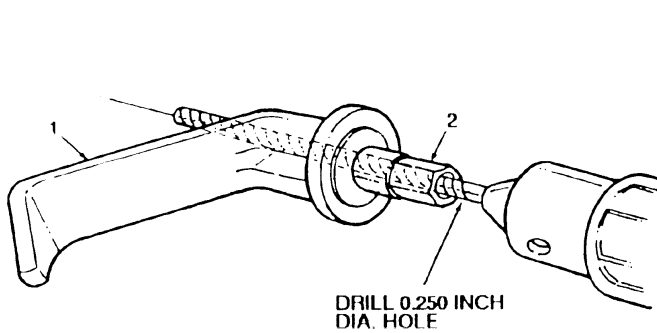

FIGURE 3-8
3. Locate and drill 0.250- inch diameter hole through outer door handle (1) using insert hole (2) as a guide. (see figure 3-8)